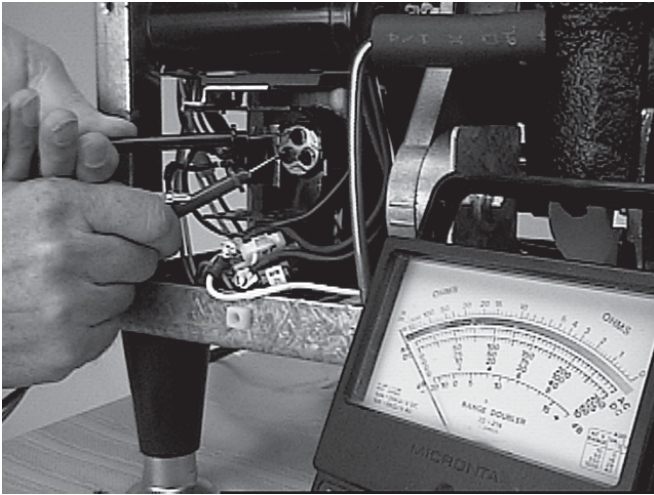

Figure 15. Ohm Meter Connection
5. Connect ohmmeter to terminal C and R. Resistance through the run winding should be 1.10 ohms with the ohmmeter set at times one. (Fig. 15)